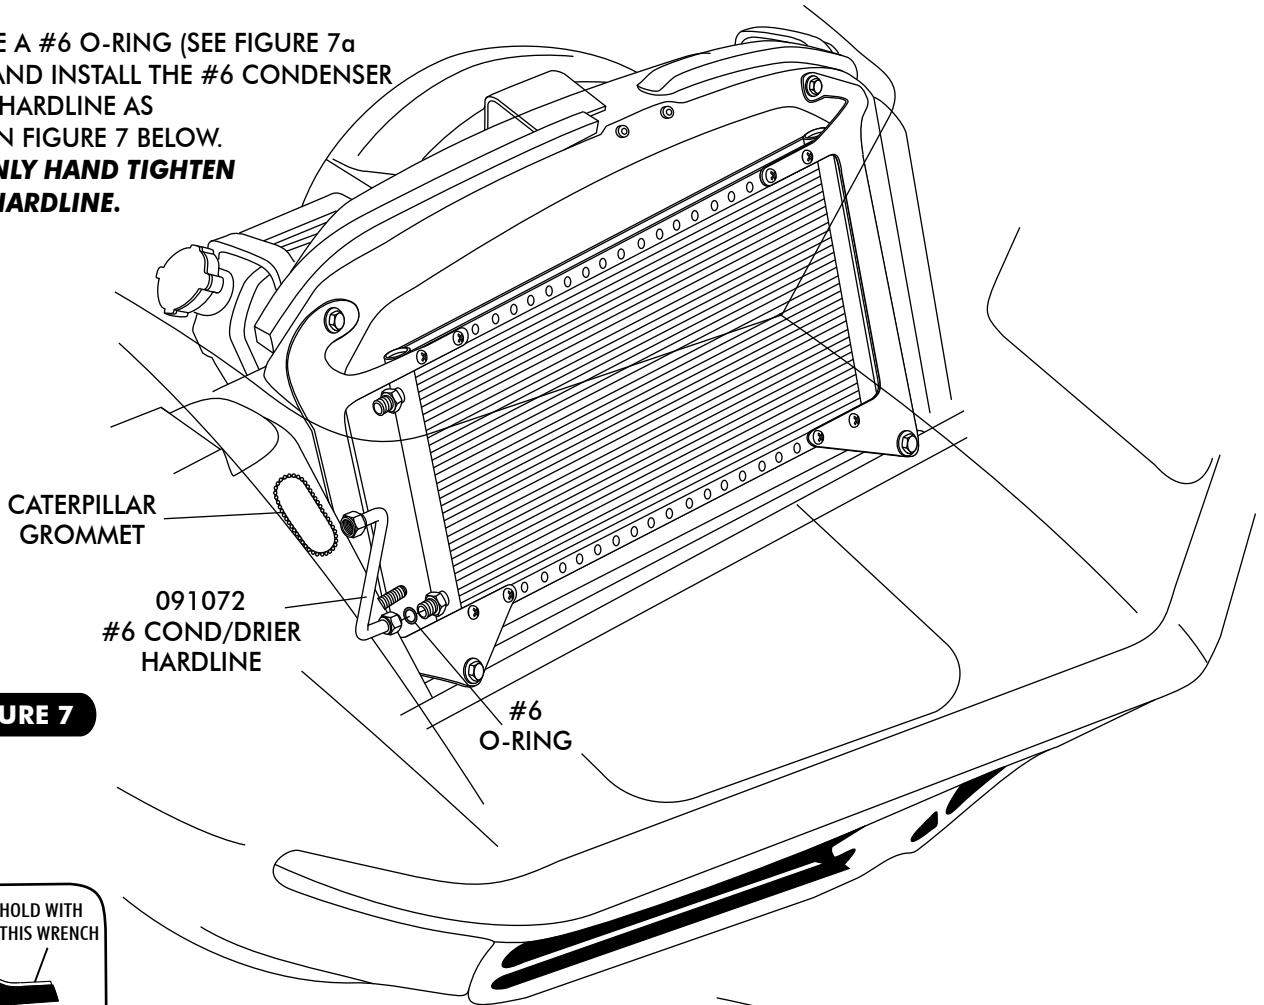

FIGURE 7
- INSTALL CATERPILLAR GROMMET AROUND THE FRONT AND REAR HOLES IN THE INNER FENDERWELL AS SHOWN IN FIGURE 7 AND 7b.
- LUBRICATE A #6 O-RING (SEE FIGURE 7a BELOW) AND INSTALL THE #6 CONDENSER TO DRIER HARDLINE AS SHOWN IN FIGURE 7 BELOW.